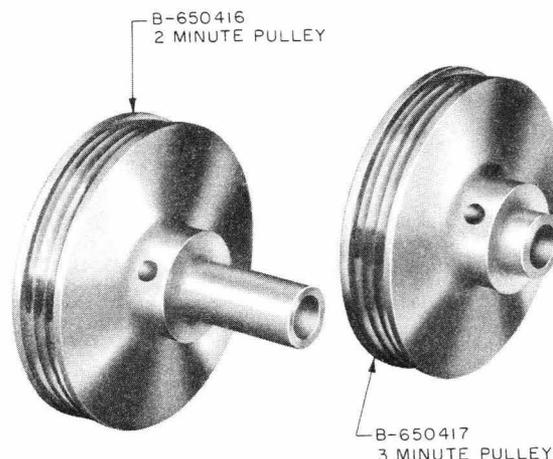

Fig. 14—Drive Pulleys
- (1) Remove the recorder from the announcement set as covered in subparagraphs 4.02(1) through 4.02(5).
- (2) Remove the flat drive belt.
- (3) Using the 6-inch B screwdriver, remove the four screws and lockwashers which fasten the motor drive assembly to the recorder base.
- (4) Remove the three round drive belts.
- (5) Using the proper size hex wrench, remove the setscrew located in the collar of the B-650416 pulley (Fig. 14).
- (6) Remove the spring from the idler assembly if it has 17 coils and replace it with a 12-coil spring.